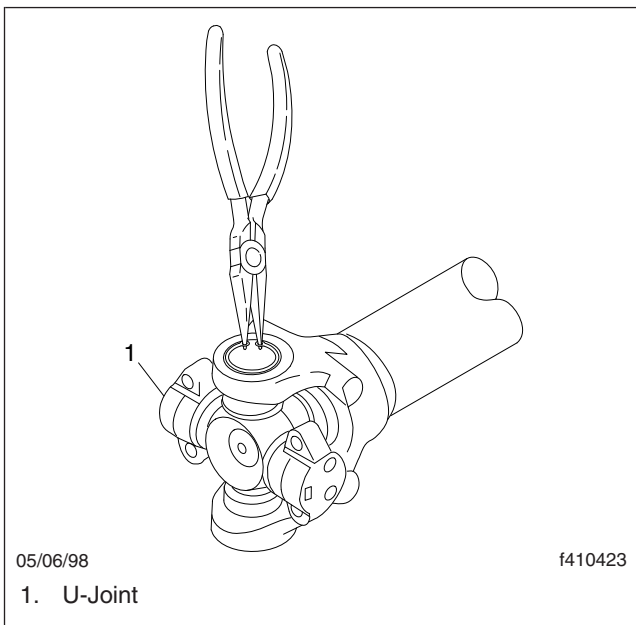

Fig. 13, Installing the Snap Rings
- 4.4 Install the snap ring into the snap ring groove. See **Fig. 13**.